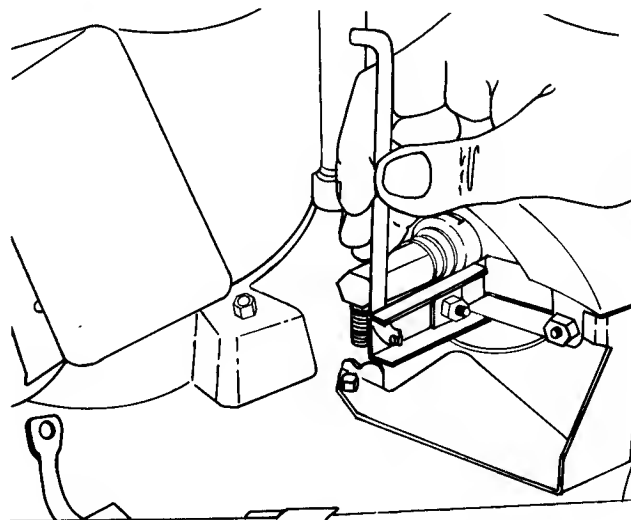
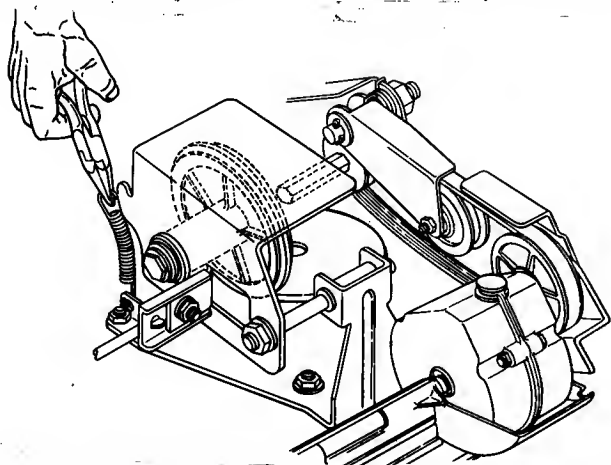

FIGURE 9 — DETACHING TRANSFER ROD
FIGURE 10 — UNHOOKING DRIVE SPRING
If the mower does not pull properly with the clutch engaged, check for the following: Grease on drive disc causing slippage, broken or disconnected drive assembly spring (see Figure 10), driven disc too worn to contact the drive disc properly, driven disc out of adjustment. This condition could also be caused by worn belts. If the belts are in good condition and the clutch is properly adjusted, service the drive system as follows:
**DRIVEN DISC REPLACEMENT:** If the rubber of driven disc is badly chunked or worn down to within  $1/16$ " of the metal rim, remove the driven disc assembly and replace the driven disc as follows: Remove the clip and detach the transfer rod from the speed control lever (Figure 9). Using a pair of needle nose pliers, unhook the drive spring and slide the driven disc assembly off as shown in Figures 10 and 11. Remove the five machine screws securing the rubber driven disc and separate the worn disc from the hub. Reverse this procedure to install the replacement disc and to reconnect the drive components.